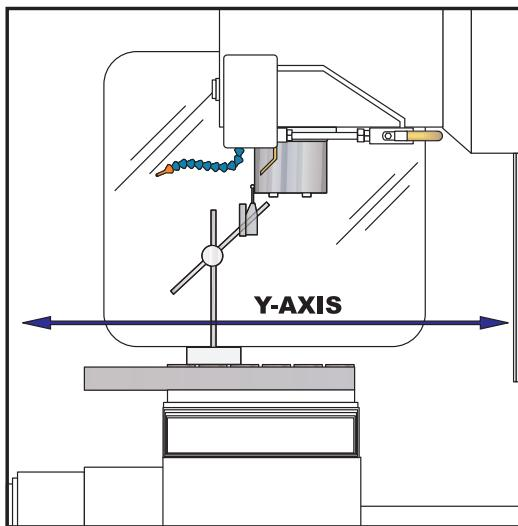

Figure 1-2. Dial indicator in position to check Y-axis.
- Set up a dial indicator and base on the mill table as shown in Fig. 1-2.
An alternate method for checking backlash is to place the dial indicator as shown in Fig. 1-2 and manually push on the mill table in both directions. The dial indicator should return to zero after releasing the table.